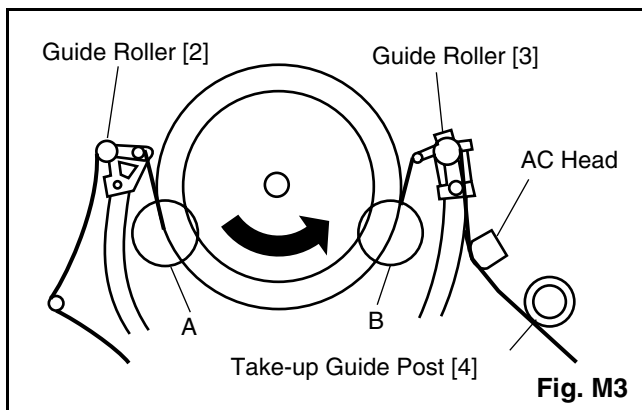

Fig. M3
1. Play back a blank cassette tape and check to see that the tape runs without creasing at Guide Rollers [2] and [3], and at points A and B on the lead surface. (Refer to Fig M3 and M4.)
2. If creasing is apparent, align the height of the guide rollers by turning the top of Guide Rollers [2] and [3] with a Guide Roller Adj. Screwdriver. (Refer to Fig. M3 and M5.)
3. Check to see that the tape runs without creasing at Take-up Guide Post [4] or without snaking between Guide Roller [3] and AC Head. (Fig. M3 and M5)
2. Play back the Gray Scale on the Alignment Tape (4822 395 10057). Set the Tracking Control Circuit to the center position by pressing CH UP button and then "PLAY" button on the unit. Adjust the height of Guide Rollers [2] and [3] (Fig. M3, Page 2-3-3) watching the oscilloscope display so that the envelope becomes as flat as possible. To do this adjustment, turn the top of the Guide Roller with the Guide Roller Adj. Screwdriver.
3. If the envelope is as shown in Fig. M7, adjust the height of Guide Roller [2] (Refer to Fig. M3) so that the waveform looks like the one shown in Fig. M9.
4. If the envelope is as shown in Fig. M8, adjust the height of Guide Roller [3] (Refer to Fig. M3) so that the waveform looks like the one shown in Fig. M9.
5. When Guide Rollers [2] and [3] (Refer to Fig.M3) are aligned properly, there is no envelope drop either at the beginning or end of track as shown in Fig. M9.
Note: Upon completion of the adjustment of Guide Rollers [2] and [3] (Refer to Fig. M3), check the X Value by pushing the CH UP or DOWN buttons alternately, to check the symmetry of the envelope. Check the number of pushes to ensure center position. The number of pushes CH UP button to achieve 1/2 level of envelope should match the number of pushes CH DOWN button from center. If required, redo the "X Value Alignment."